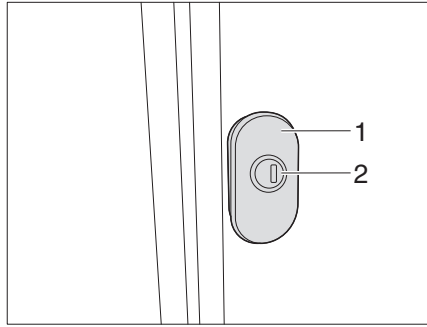
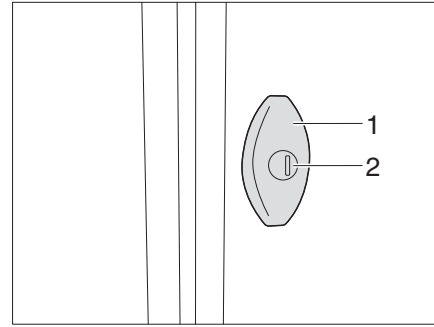

Fig. 33 Turnbuckle lock (variant 1)
Fig. 34 Turnbuckle lock (variant 2)
- Insert the key into the locking cylinder (Fig. 33/ Fig. 34,1) and turn a quarter turn. The flap lock is unlatched.
- Pull on the turnbuckle lock (Fig. 33/ Fig. 34,2) and rotate anticlockwise through 180°. The external flap is open.